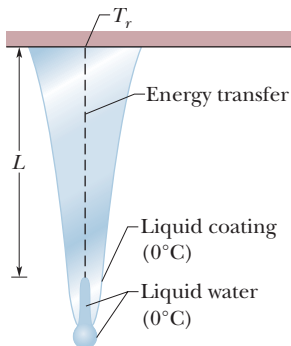

Figure 18-55 Problem 78.
**78 GO** **Icicles.** Liquid water coats an active (growing) icicle and extends up a short, narrow tube along the central axis (Fig. 18-55). Because the water-ice interface must have a temperature of  $0^\circ\text{C}$ , the water in the tube cannot lose energy through the